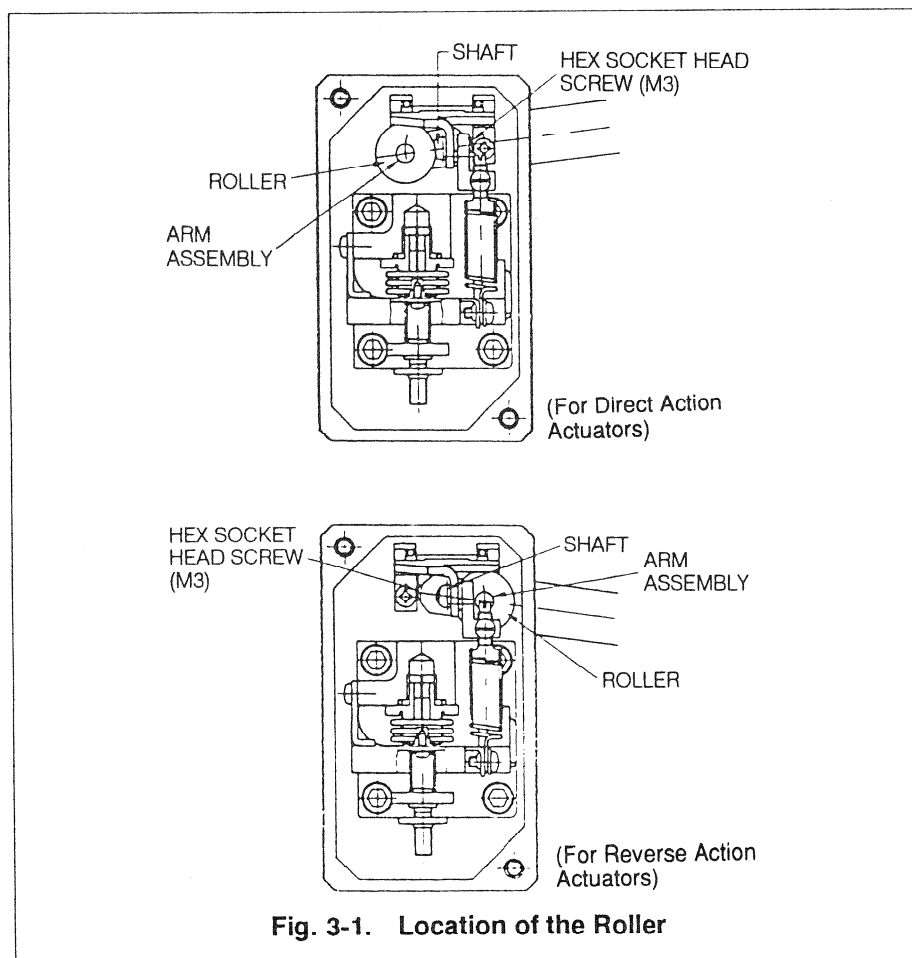

Fig. 3-1. Location of the Roller
- (d) If the actuator is the direct action type, fix the mechanism with the hex socket head screw (M3) in the layout that the roller of the arm assembly is located on the left hand side of the shaft as viewed in the direction as shown in Fig. 3-1, if the actuator is the reverse action type, fix it in the layout that the roller is located on the right hand side.